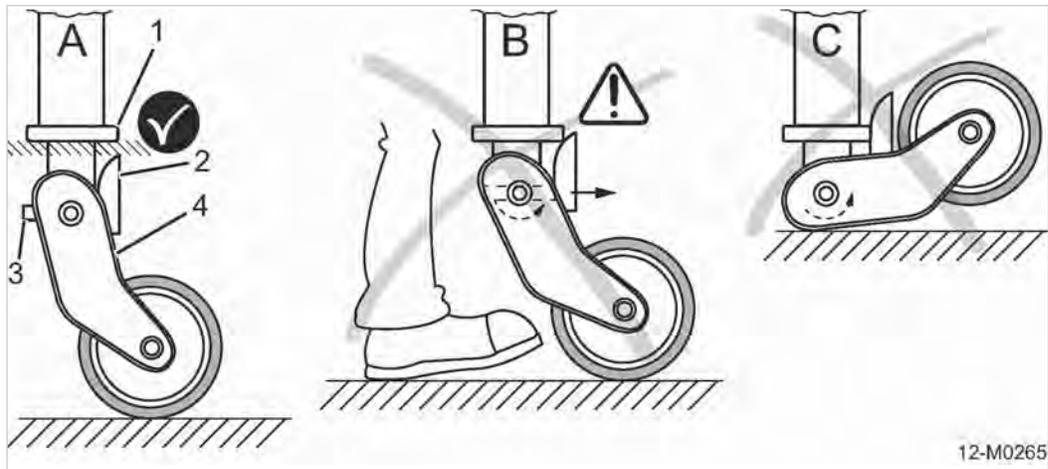

Fig. 69 Warning "Risk of injury due to falling towing device"
For this reason, the automatic jockey wheel of a separated machine must be wound down until the cam ② no longer touches the bead ①. The automatic folding of the wheel suspension is thus blocked (see figure 69/A).
When the jockey wheel of a separated machine is wound up further, the bead pushes against the cam of the retaining pin (see figure 69/B). The retaining pin ③ unlocks the wheel suspension ④ which will abruptly fold (see figure 69/C).